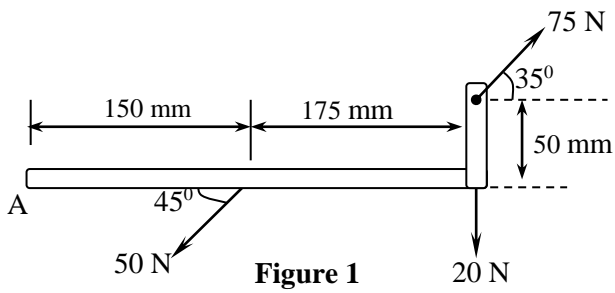
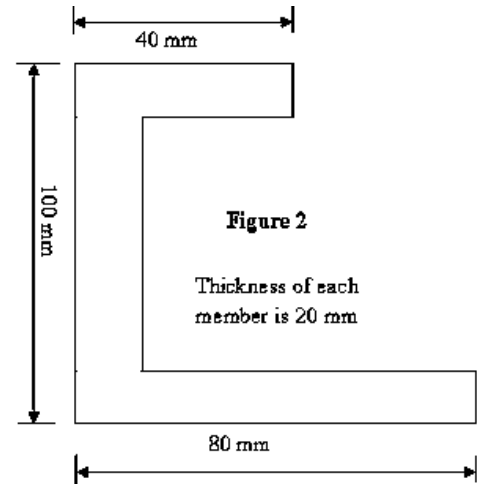

Figure 1
Figure 2
Q.2	<ul style="list-style-type: none"> (a) Write assumption made in the theory of pure bending. 03 (b) State and Prove with usual notation 'The law of Parallelogram'. 04 (c) The forces are acting on a rigid body as shown in Figure 1. Find the resultant of the given force system, in terms of magnitude and direction. Find the location of Resultant with respect to point A. 07 <p style="text-align: center;">OR</p> <ul style="list-style-type: none"> (c) Determine centroid of the section shown in Figure 2. 07